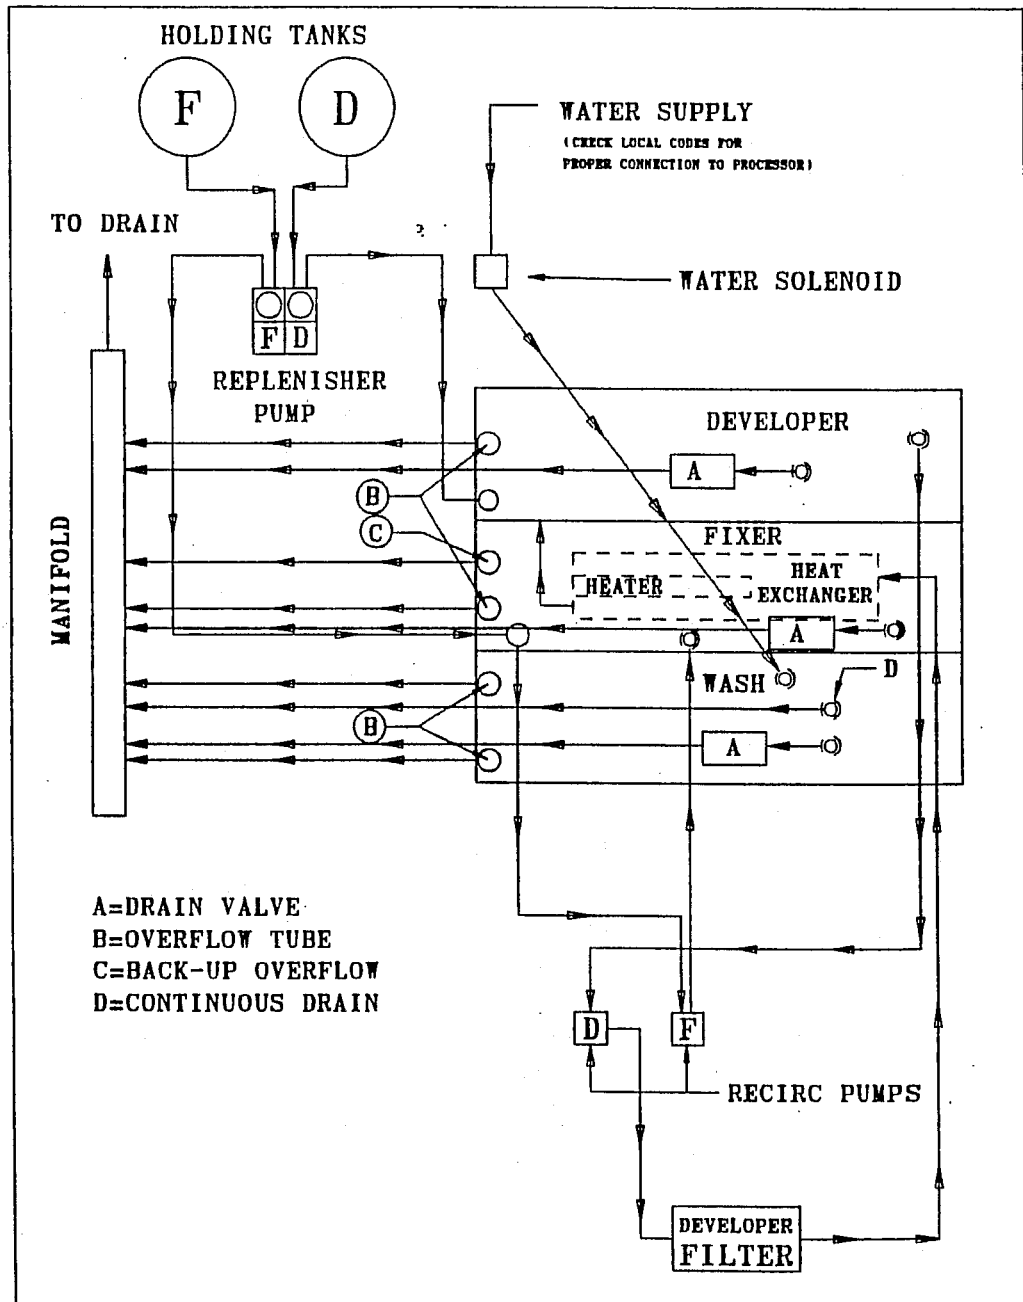

FIGURE 3-1
3.3.3.1 The replenishment system consists of a positive displacement pump, connecting tubing and optional replenisher tanks as shown in Figure 3-1.